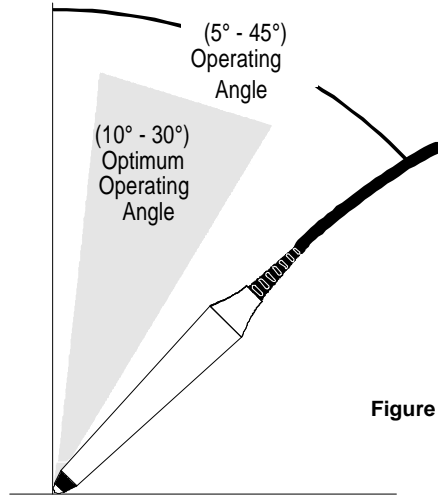

Figure 2
- 2) Hold the BCR in your hand as you would a pencil. The BCR works best when tilted from 10° to 30°, although any angle from 5° to 45° will work. See Figure 2.